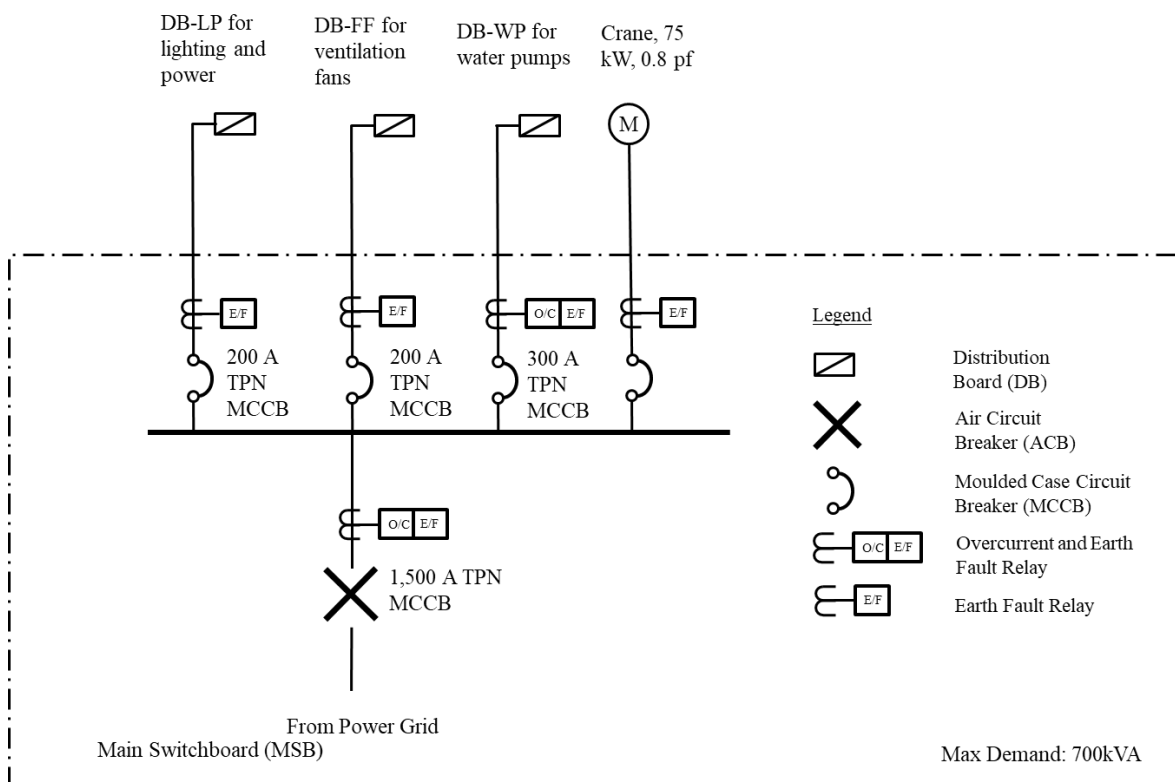

Figure Q4: Single Line diagram of the existing facility
The electrical single line diagram of an existing factory is shown in Figure Q4.
- (e) Using the existing single line diagram shown in Figure Q4 as reference, design the electrical single line diagram for the factory expansion including the emergency generator supply. Your diagram should clearly indicate the number of poles and current rating of all additional circuit breakers required. Cable sizes and protection relays are not required to be shown.